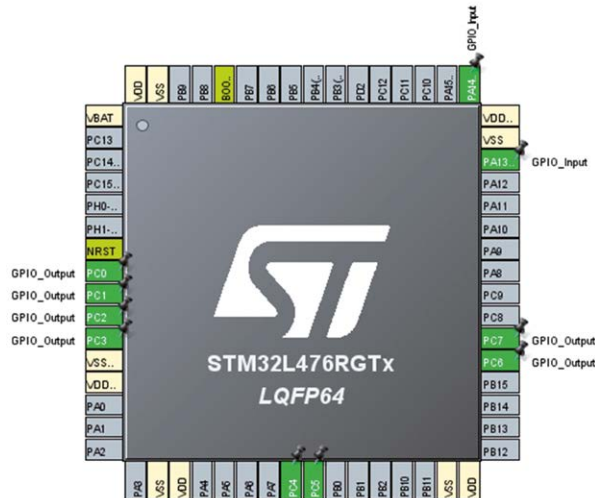

Figure 5.41: Configure inputs and outputs.
- configure **PA13** and **PA14** as digital inputs (**GPIO\_Input**) as in Figure 5.41;